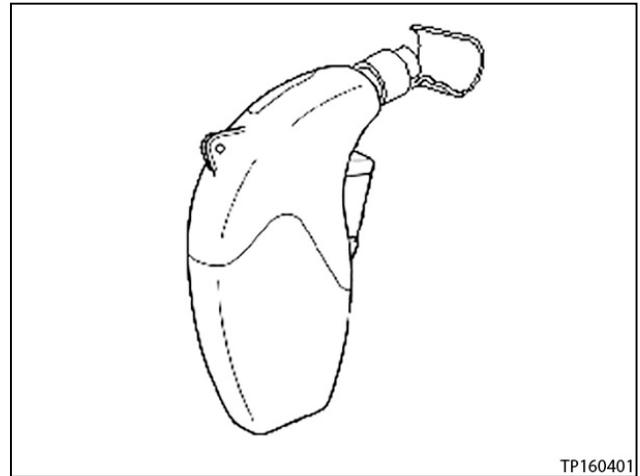
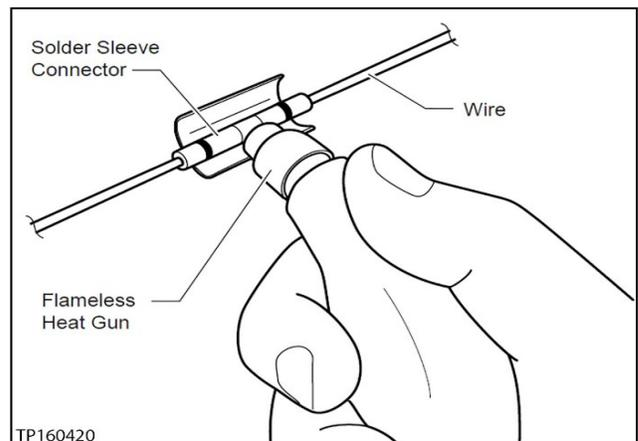

Figure 20
Figure 21
29. Install the solder sleeve connector by shrinking it to the wire with essential tool Flameless Heat Gun J-46538 or equivalent flameless heating tool (see Figure 20 and Figure 21).